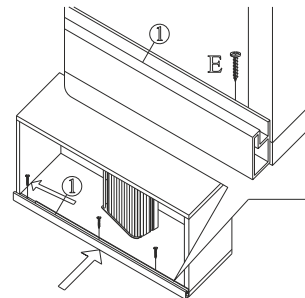

Fig. 2
2. Fix the track on left side edge of the cabinet as shown in Fig.2.